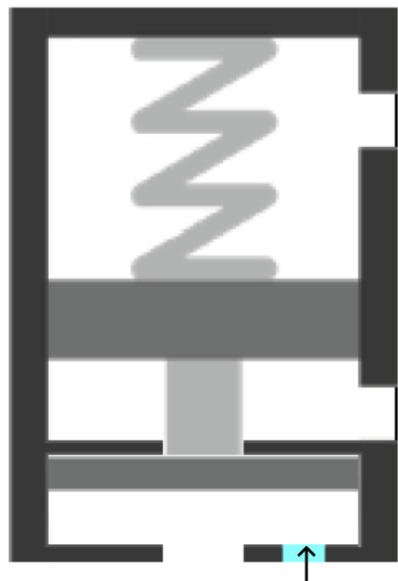
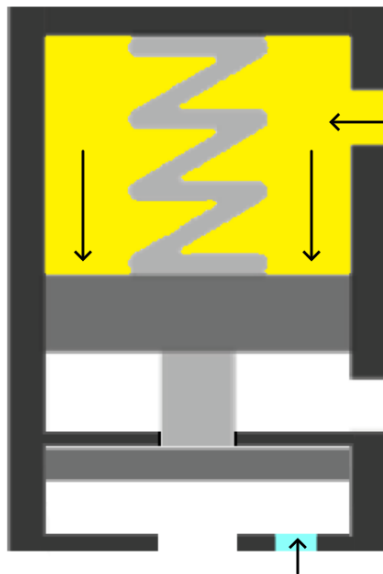
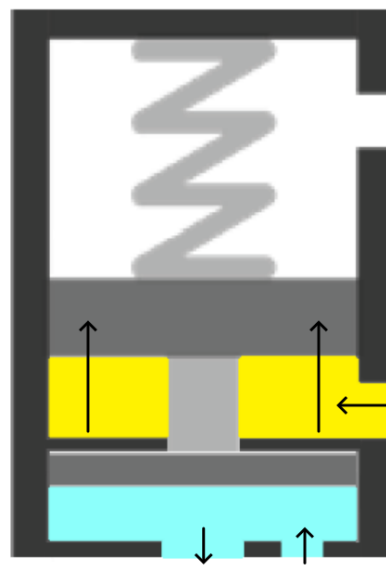

Figure 03 – Single acting rest phase
Figure 04 – Double acting rest phase
Figure 05 – Single and double acting dosing phase
In the case of single acting, what keeps the valve closed is the spring, so the fluid pressure must be below the pressure generated by the spring to keep the valve closed (Figure 03). The fluid is at the fluid inlet, whose inlet is blocked by the membrane, held in position by the pin that is pushed by the spring. When pneumatic pressure is applied to the opening inlet, the piston rises and, consequently, also the pin and membrane, allowing the fluid to pass to the nozzle (Figure 05).
In the case of double acting, the working mode is similar to single acting, except that, in addition to the spring keeping the valve closed, there is pneumatic pressure from the valve closing inlet (Figure 04). This is used when working with fluid pressures higher than that exerted by the spring.
- The fluid is pressurized at the fluid inlet and resting against the membrane; in the case of single acting, with only the spring pushing to close the fluid outlet (Figure 03), in the case of double acting, also with pneumatic pressure (Figure 04);
- The pin lifts, lifting the membrane and allowing the fluid to exit (Figure 05);